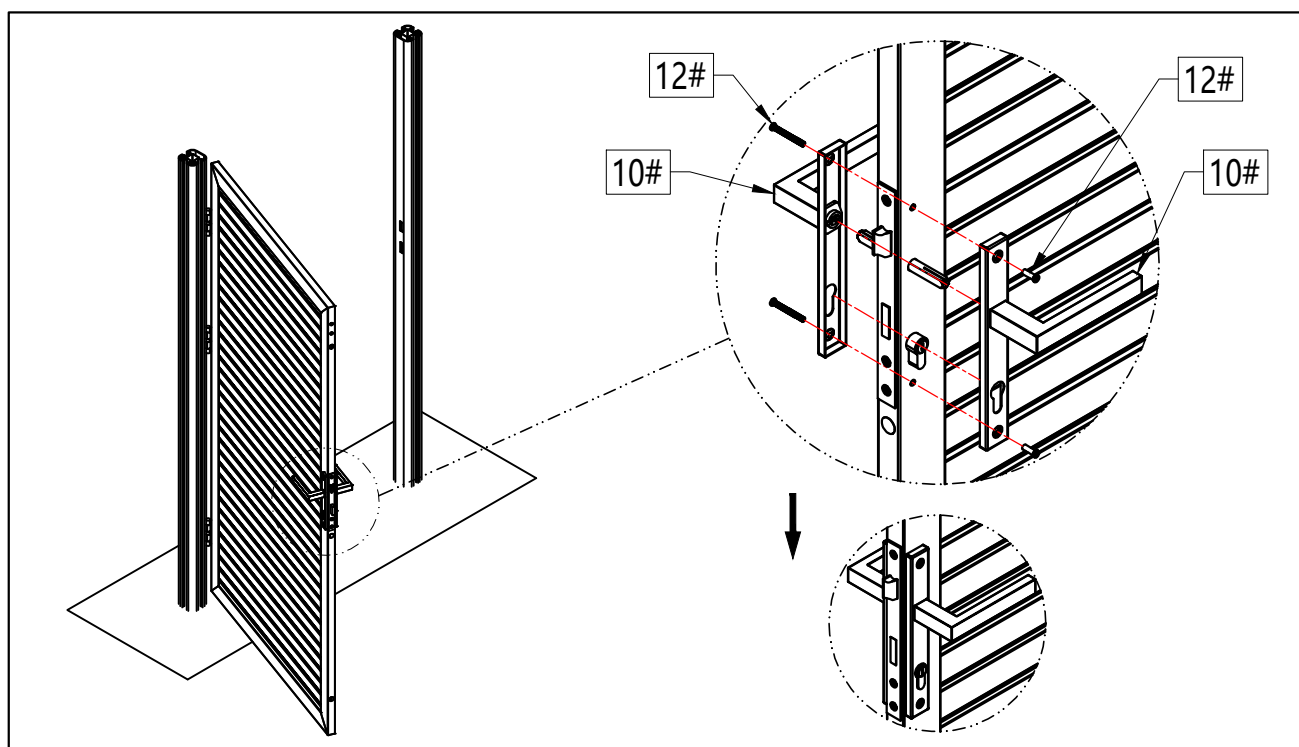

Figure 14
- 14 Attach the Handle (10#) against the Handle Spindle Shaft (11#) and the Lock (9#) in place and fix it with the binding Screw (12#), as shown in Figure 14.